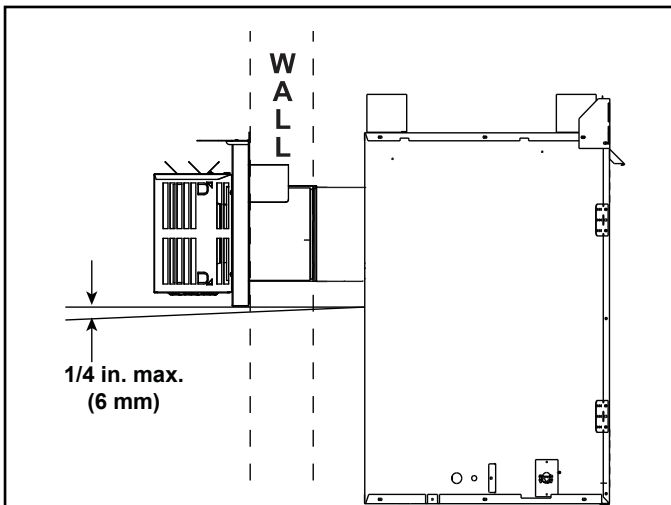

Figure 4.9
- Horizontal termination cap should have a 1/4 inch downward slant to allow any moisture in cap to be released. See Figure 4.9.